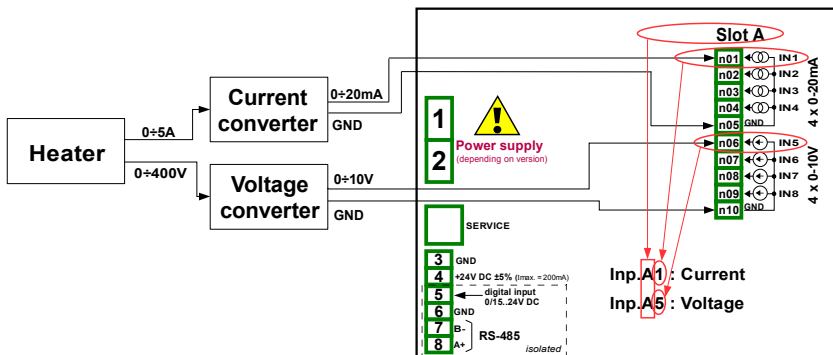

Fig. 7.57. Schematic diagram for the **UI4** module
First configure the device as described below, then connect the heater to converters and then to the device (in accordance with **Fig. 7.57**).
- **Source** parameter set as **Inp. A1: Current** (see the connection in **Fig. 7.57**),
- **Source** parameter set as **Inp. A5: Voltage** (see the connection in **Fig. 7.57**),